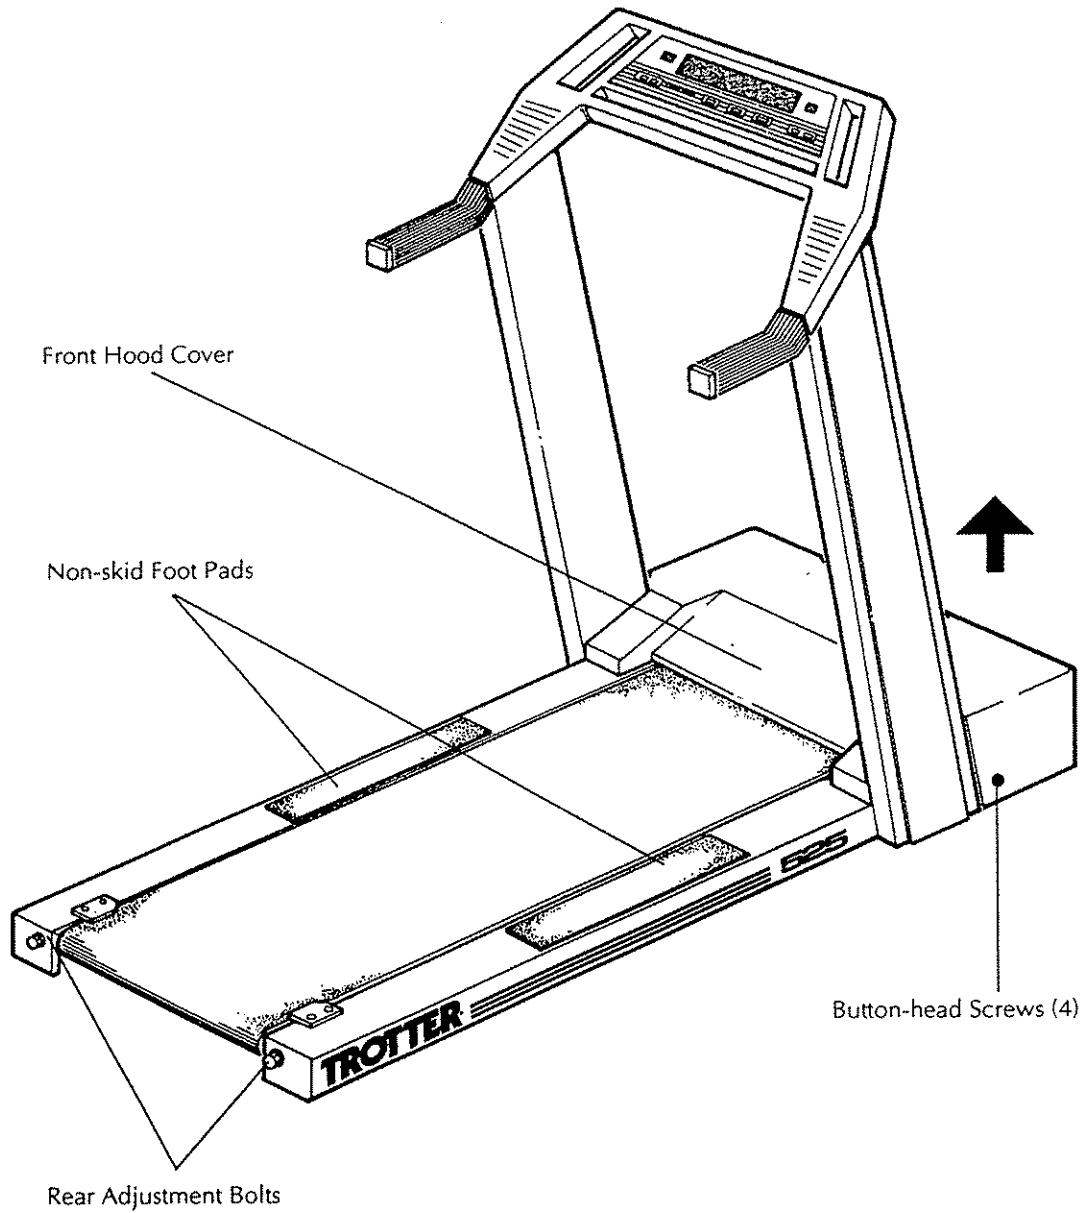

Figure 4-3: Front Hood Cover (Access)
The main drive motor, LC filter (inductor [choke] and capacitor), elevation motor (AC), and elevation assembly are all housed beneath the front hood cover. This cover is located in front of the display console's support stanchions. See Figure 4-3.
To access those electro-mechanical items housed beneath the front hood cover, refer to Figure 4-3 and complete the following: